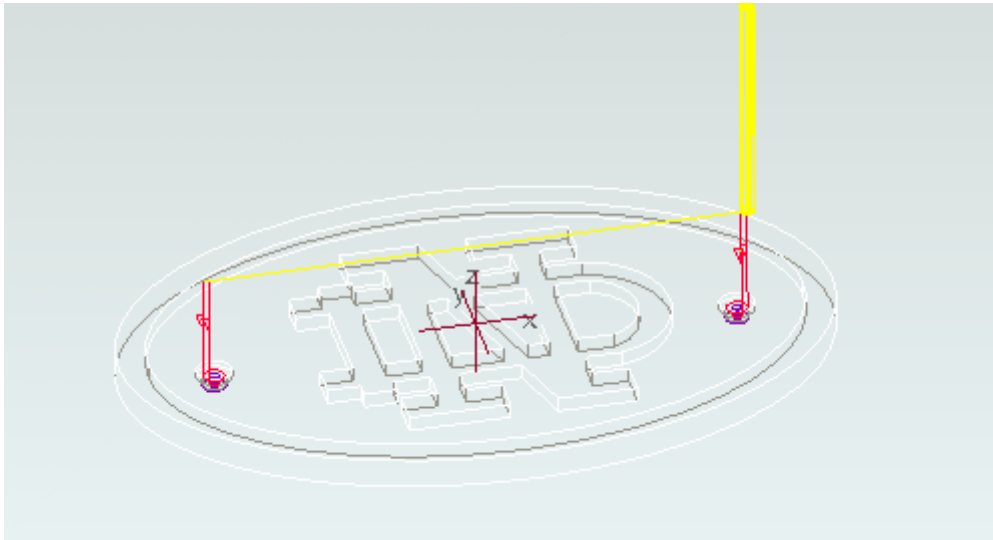

Figure 13: Toolpath for making holes using a profile sequence.
- Step 18:** Sketch around the volume to be milled as shown in Figure 13.
- Step 12:** Choose PLAYPATH << SCREENPLAY and see that the tool profiles around the edges selected (Figure 13).